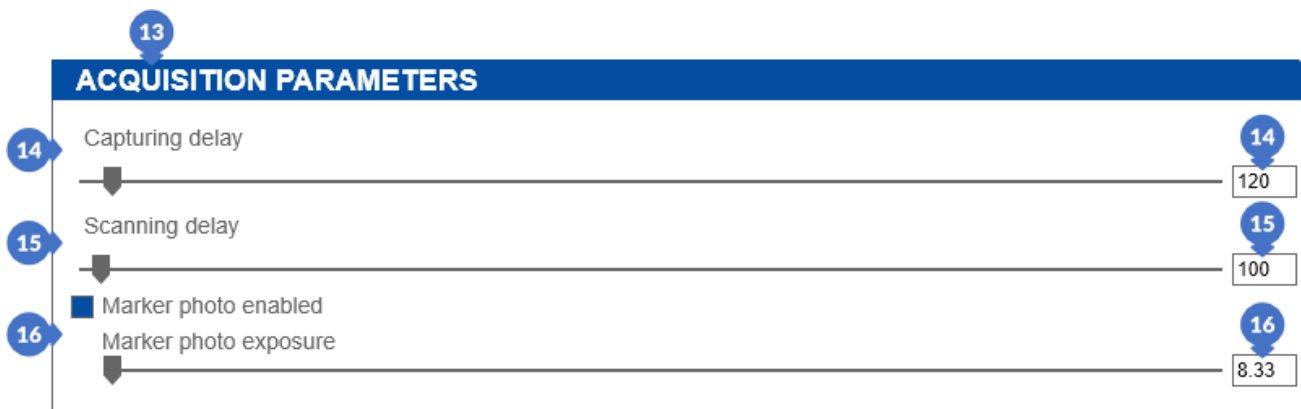

Figure 70. Acquisition parameters settings
*Scanning delay* (15) is a parameter necessary when using a rotary table. Thanks to it, it is possible to wait (for a defined time) for the scanned object (and the rotary table) to stabilize after the rotation of the table. It is necessary to perform a more stable, thus more accurate scan. This parameter can have values ranging from 0 to 5000ms.
The *Marker photo enabled* checkbox (16) (Figure 70) is used to save an additional photo of markers with the shutter speed value set with the slider (cf. more on exposure in the Section 9). The *Marker photo enabled* slider can have values ranging from 1 to 300 ms. This option is invisible when *Marker auto exposure* from the camera parameter settings (*CAMERAS*) is active. Thus, the option of saving additional photos will be active and the exposure of marker photos will be adjusted automatically.